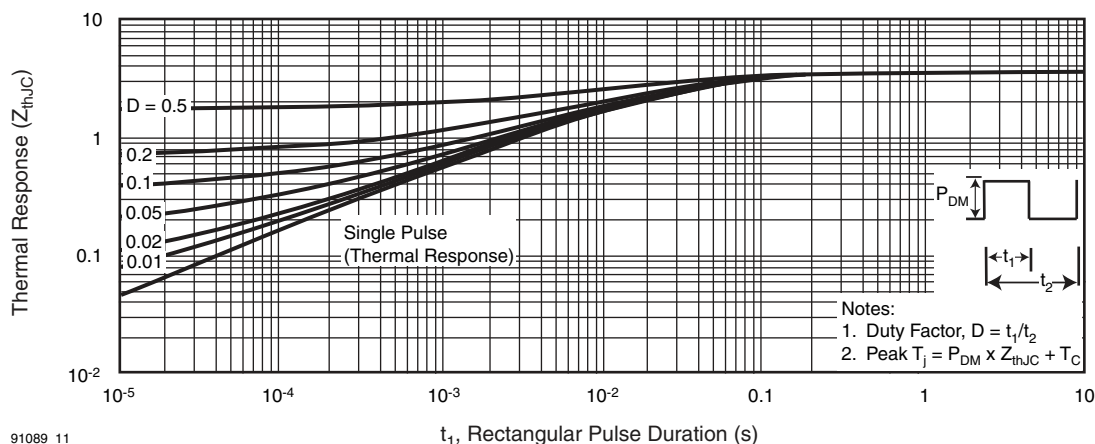

Fig. 11 - Maximum Effective Transient Thermal Impedance, Junction-to-Case
a. Repetitive rating; pulse width limited by maximum junction temperature (see fig. 11)
- a. Repetitive rating; pulse width limited by maximum junction temperature (see fig. 11)